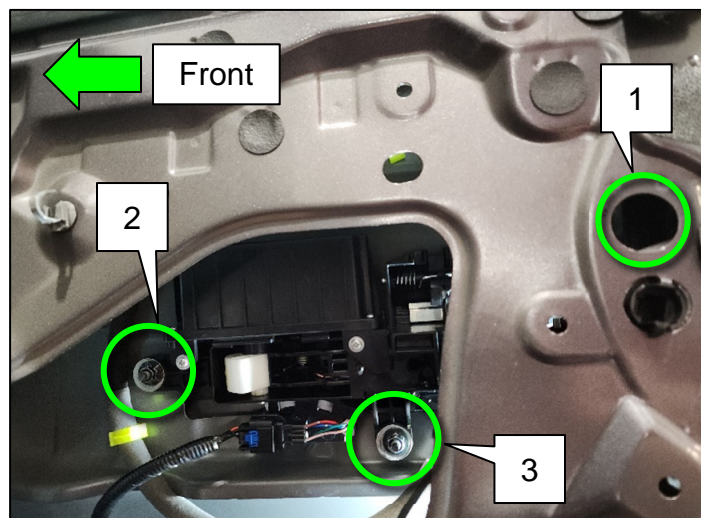

Figure 29
26. While holding slightly upward and forward pressure on the Outside Door Handle Base from the inside, torque the three (3) Door Handle Nuts in sequence (1, 2, 3) as shown in Figure 29.